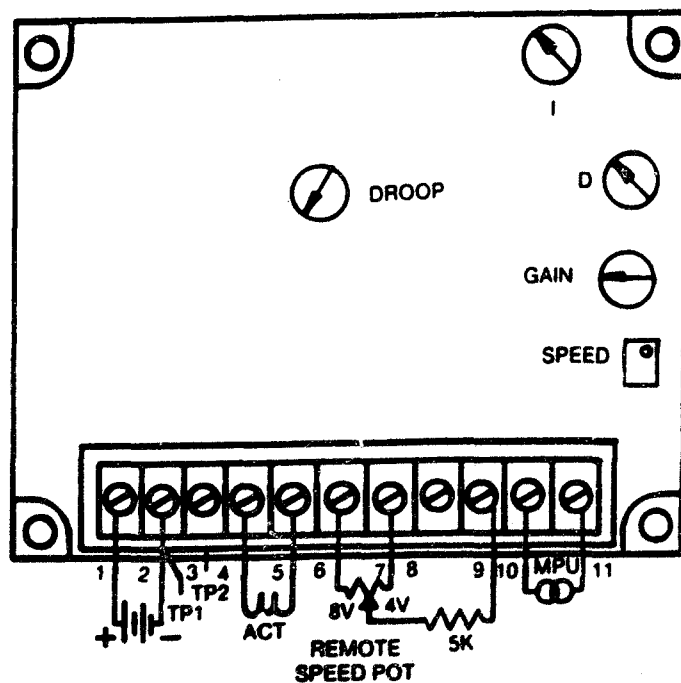

FIGURE 1. CONTROLLER WIRING CONNECTIONS AND ADJUSTMENTS
2. Adjust the DROOP potentiometer to 0 (Figure 1).